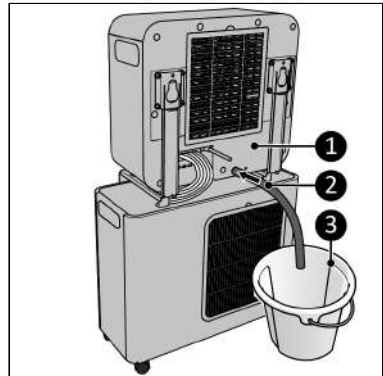

Figure 38.
7. Connect the condensed water drainage hose (Figure 38, pos. 2) to the back of the indoor unit (Figure 38, pos. 1).
8. Guide the condensed water drainage hose (Figure 38, pos. 2) into a bucket (Figure 38, pos. 3).
2. The condensed water drainage hose (Figure 38, pos. 2) must be connected to the back of the indoor unit and be guided into a bucket (Figure 38, pos. 3).